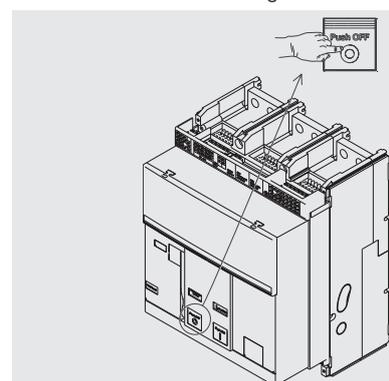

Figure 43
6. Opening - Press the opening pushbutton "O - Push OFF" as indicated in Figure 43.